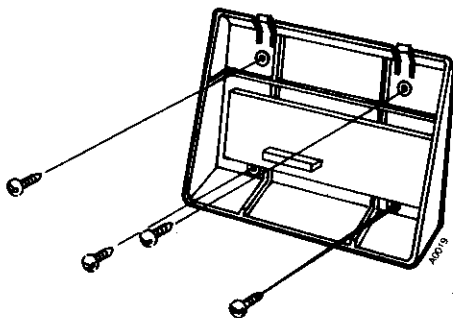

Figure 6 SECURING MOUNTING BASE TO WALL, EK-616
- Secure telephone base to wall with four (4)screws (Figure 6).